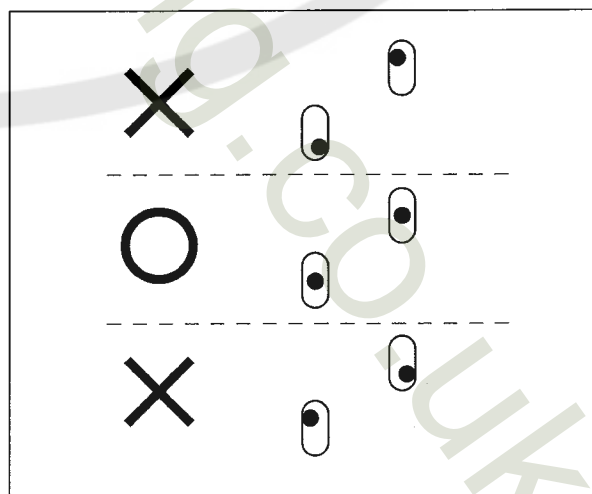

Fig. 18
- (1) Set the needle into the needle installation hole on the needle clamp.
- (2) Remove the screw①.
- (3) Loosen the screw② of the needle bar bracket. Move the needle bar up and down to make the height from the top of the stitch plate to the left needle tip to 12.0 mm.
- (4) Make sure the needle drops into the center of the needle hole on the stitch plate, then tighten the screw② securely. (Fig. 18)
- (5) Screw the screw① back.